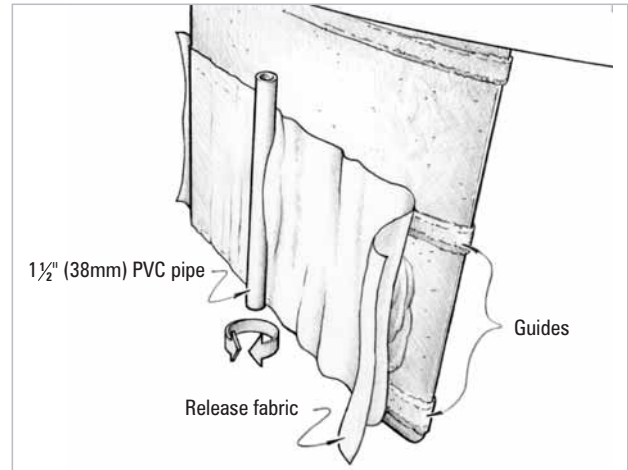

Figure 8-7 Using the cast template profiles as guides, drag a batten across the profiles to level the fresh epoxy mixture flush with the three profiles.
10. Lay a precut piece of release fabric over the fairing compound. The fabric should be large enough to cover the entire area from guide to guide. Using a length of 1½" (38mm) diameter PVC pipe cut to span two of the guides, shape the fairing mixture flush with the guides. Beginning in the middle of the foil, roll the pipe back and forth, as you would a rolling pin, forcing fairing compound under the release fabric toward the leading and trailing edges of the foil (*Figure 8-7*). Adjust the angle of the pipe as you approach the edges of the foil to finish with the pipe parallel to the leading and trailing edges. With the proper amount of fairing compound, a small amount of excess will squeeze from the leading and trailing edge. To give yourself adequate working time in warmer temperatures, use 206 or 209 Hardener. Allow the fairing mixture to cure thoroughly.